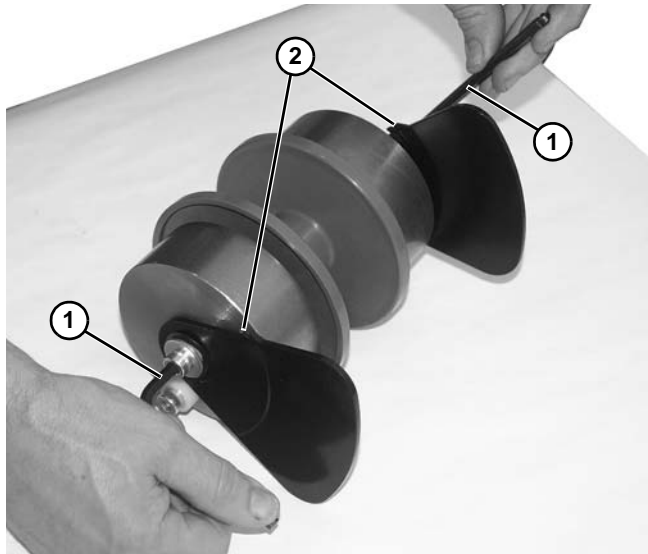

**Figure 100**
- Remove two weights (**Figure 100, item 1**) from each side of pulley (**Figure 100, item 2**).